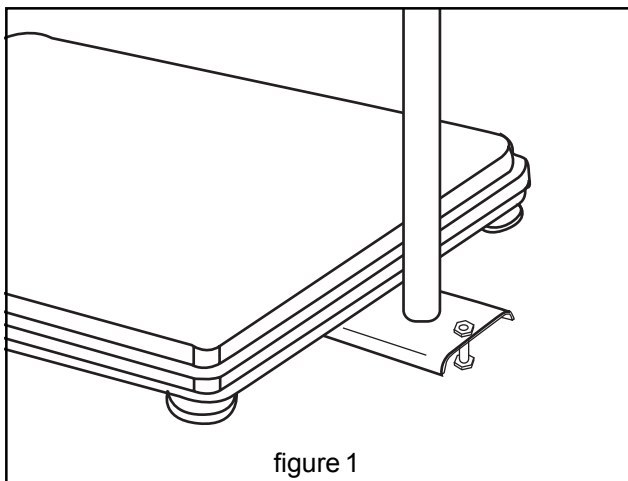

figure 1
1. Unpack scale and place on flat, stable surface. Adjust feet, if necessary, until bubble level indicates a level condition (figure 1).
2. The bolt located at the bottom of the column should be factory set to leave a 3mm (1/8") space between the bolt and floor surface (figure 1)